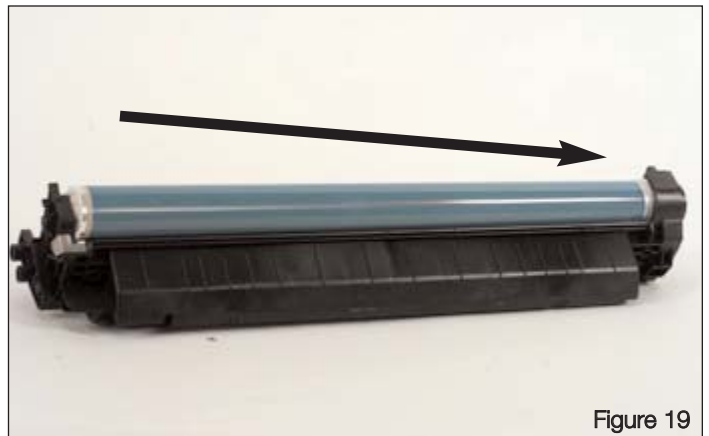

Figure 19
4. Lightly dust the OPC drum with Kynar™ powder and install the drum, drive side first. See Figure 19.